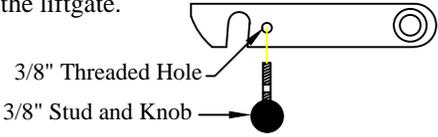

Figure 18: Original Series platform latch knob.
- 1. Install** the two (2) knobs on the platform latches (Original Series only) see (Figure 18).